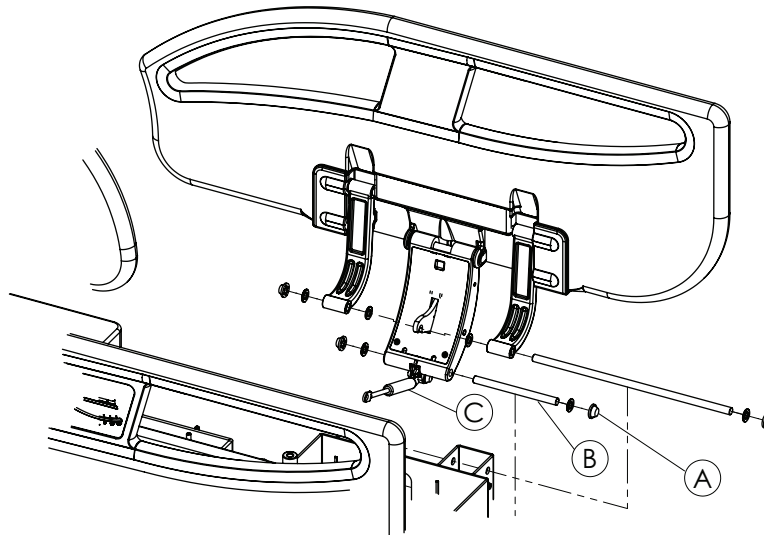

Figure 10 – Foot end siderail gas cylinder
7. Using a large flat screwdriver and a hammer, remove one of the push nuts (A) that secures the bottom of the foot end siderail gas cylinder to the siderail mechanism (Figure 10).
8. Remove and discard the pivot pin (B) and foot end siderail gas cylinder (C) (Figure 10).